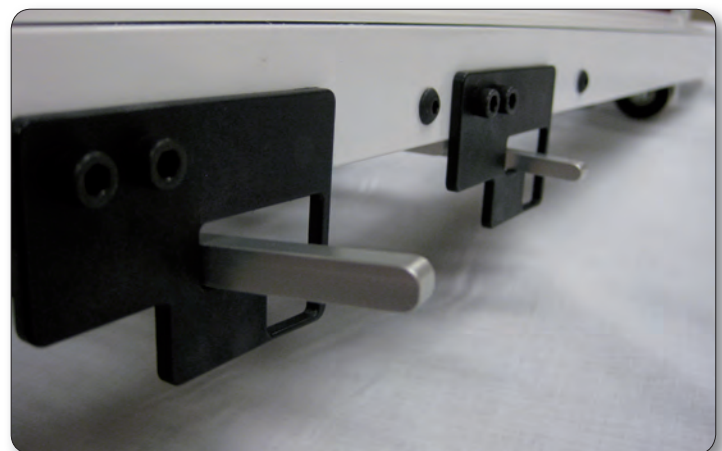

Figure 30
1. To move the HQ quilting machine around on the table after the program has loaded, press the “Engaged” button on the top right-hand side of the touch screen. This toggles the motors between being “engaged” and being “disengaged.” Use the mechanical disengagement levers on the right-hand side of the carriage to physically disengage the white carriage gears from the blue racks (Figure 30). This allows true “free motion” quilting with no added resistance from the HQ Pro-Stitcher. For both levers, the Down position is “Engaged” and the Up position is “Disengaged.”